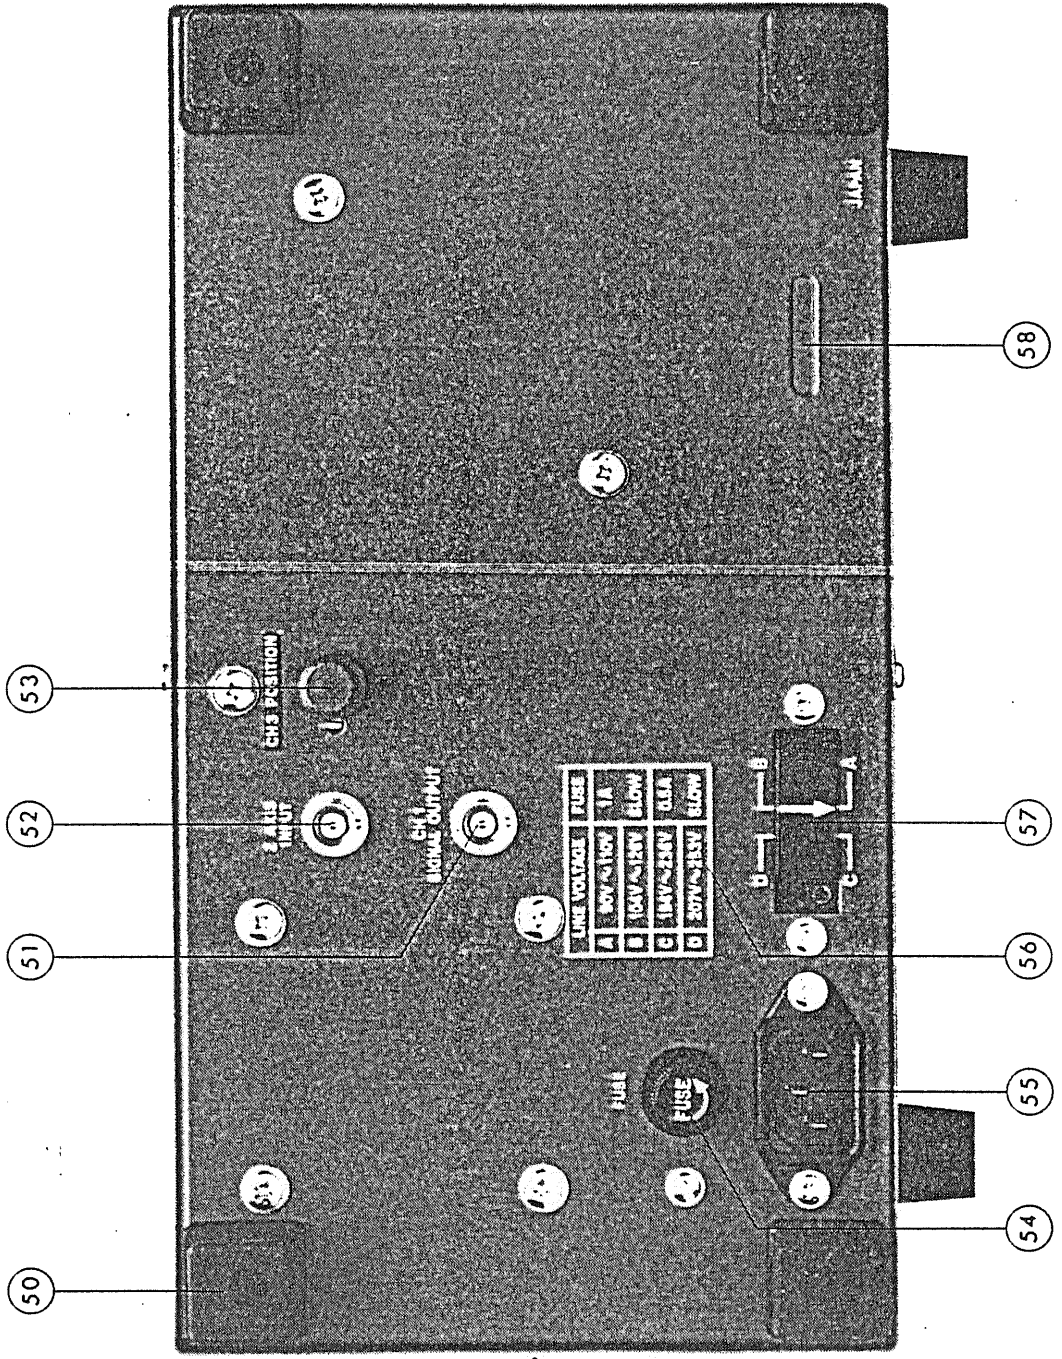

Figure 4-2
4.2 Explanation of Rear Panel (See Figure 4-2.)
- o CH1 SIGNAL OUTPUT ... (51) This output terminal provides CH1 signal which can be fed to a frequency counter, etc.
- Z AXIS INPUT ..... (52) Input terminal for a external intensity modulation signal. Binding post terminal with 19-mm (0.75 in.) spacing.
- o CH3 POSITION ..... (53) POSITION CONTROL for CH3, INT or EXT TRIG VIEWING.